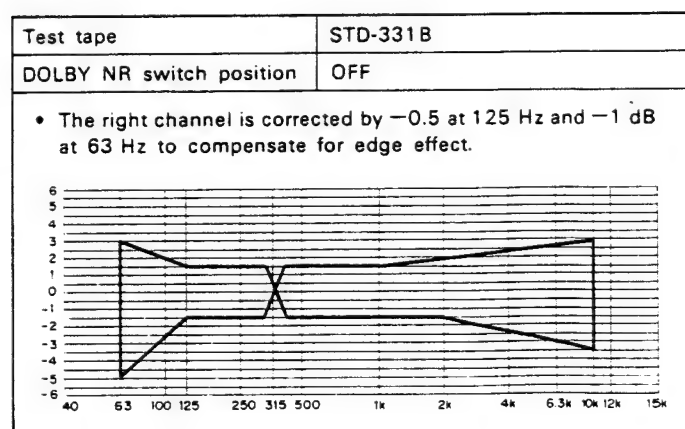

Fig. 12-5 Playback frequency response tolerance zone
* Select the test tape, tape selector, and Dolby NR switch and satisfy the frequency characteristic zone as shown in Figs. 12-5 and 12-8.